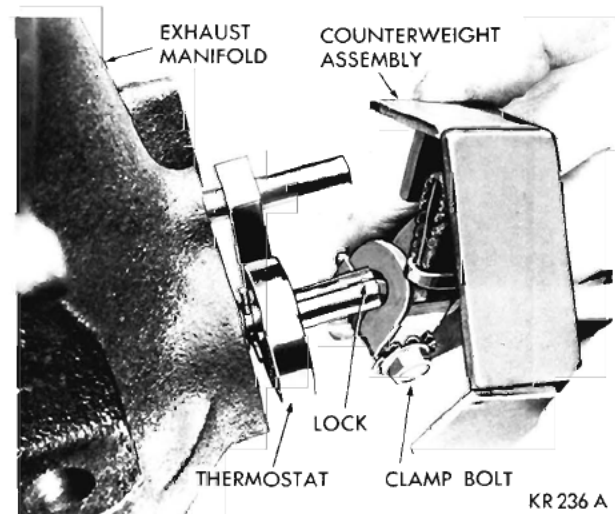

Fig. 28—Installing Counterweight
(3) Place the counterweight on the shaft with the shield in the upper position and insert the lock in the shaft slot.
(4) Center the counterweight on the shaft and turn the valve counterclockwise until the bumper passes the stop pin (Fig. 28).
(5) Press the counterweight on the shaft until it is seated. Tighten the clamp bolt to 50 inch-pounds, using Tool C-3380 Torque Wrench.
(6) Make sure the anti-rattle spring on the opposite end of the shaft is in place. Test operation of the valve.